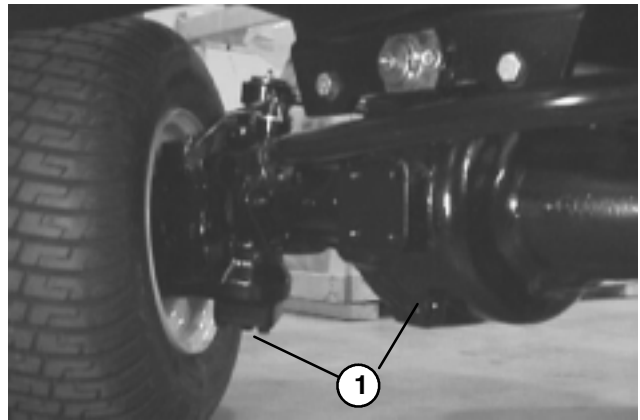

Figure 55
CHANGING REAR AXLE LUBRICANT (Model 30455 only) (Fig. 55)
2. Clean area around the (3) drain plugs, (1) on each end and (1) in the center (Fig. 55).